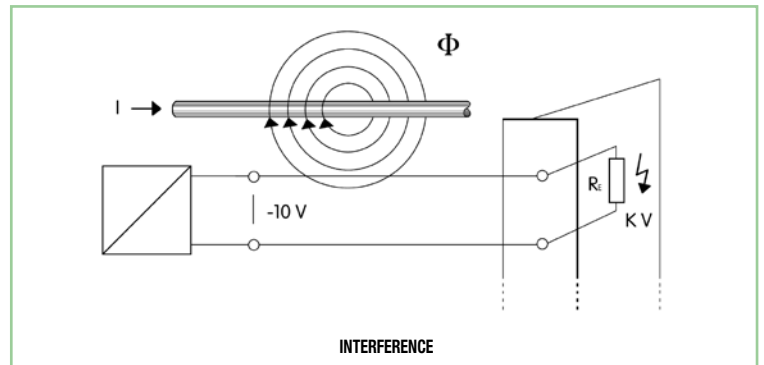

fig. 5
- signal cables are wired in ducts with power cables (fig. 5)